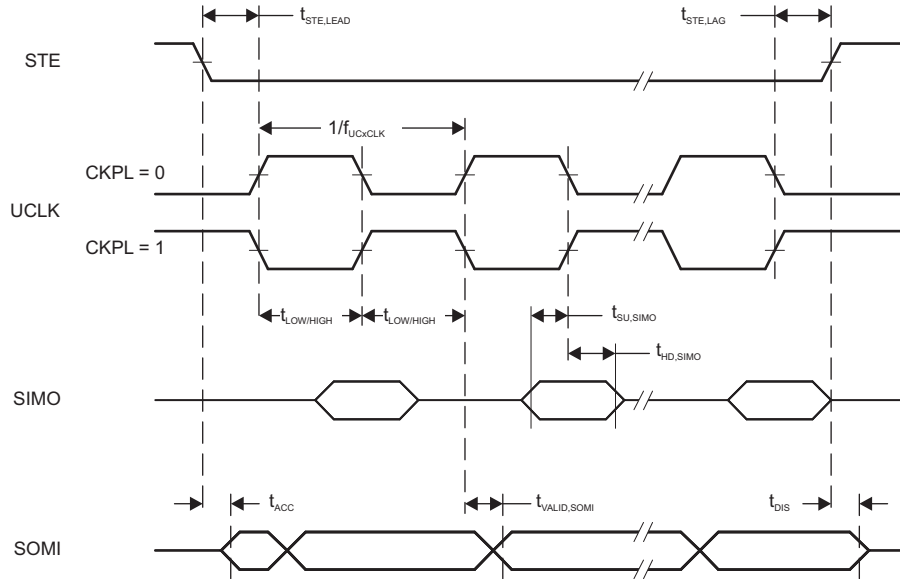

图 5-13. SPI Slave Mode, CKPH = 0
(2) Specifies the time to drive the next valid data to the SOMI output after the output changing UCLK clock edge. See the timing diagrams in 图 5-13 and 图 5-14.
(3) Specifies how long data on the SOMI output is valid after the output changing UCLK clock edge. See the timing diagrams in 图 5-13 and 图 5-14.